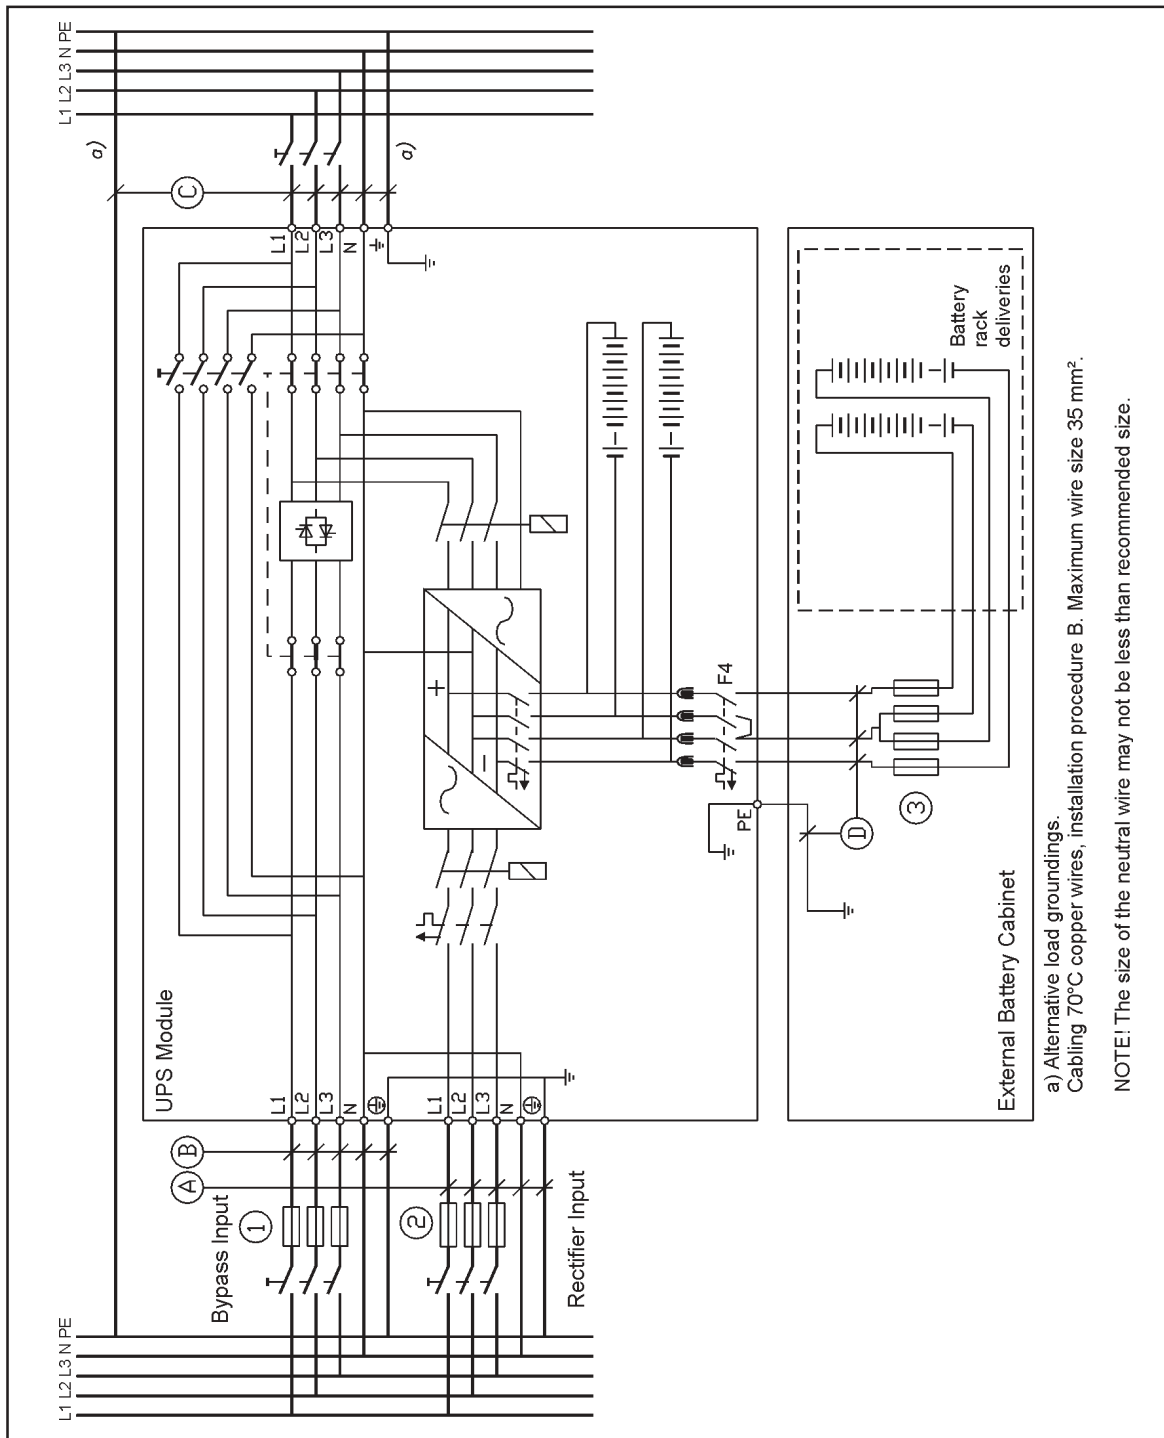
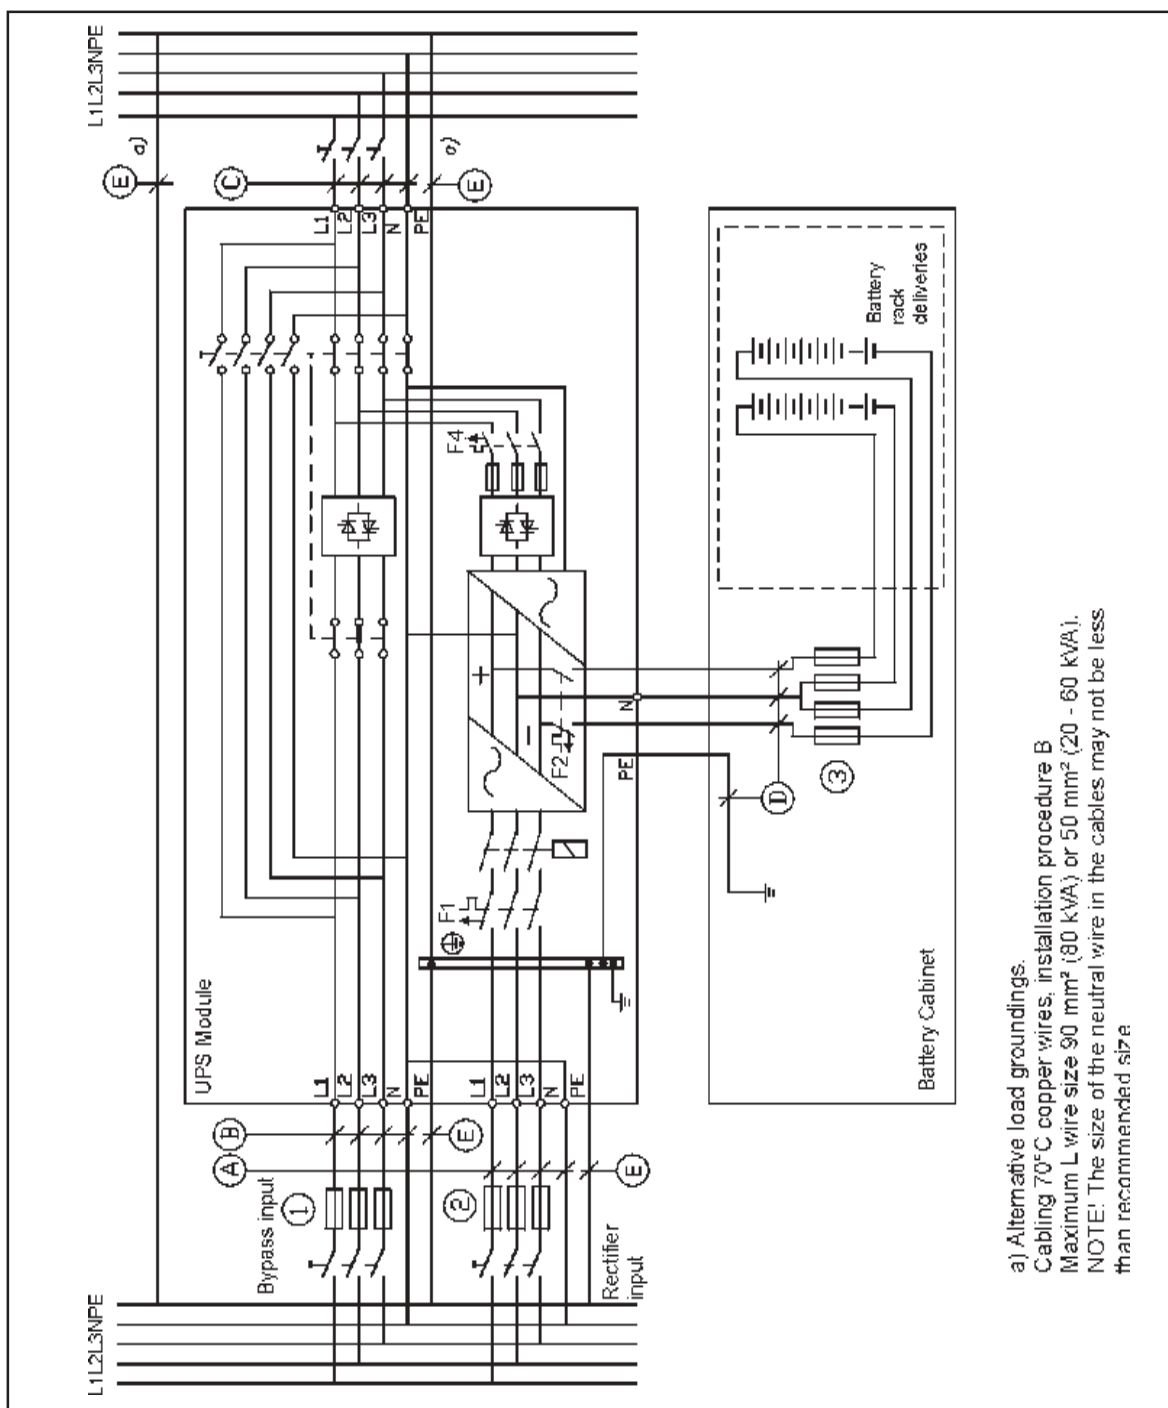

Figure 9. Five-wire installation of UPS units from 20 to 30 kVA with two-cable input.
Figure 10. Five-wire installation of UPS units from 40 to 80 kVA with two-cable input.
1. Check that electrical connections to the installation site have been properly executed. Also check fuse or circuit breaker ratings and cable dimensions against figure 9 for 20-30 kVA systems and figure 10 for 40-80 kVA systems.
5. The UPS should be connected in accordance with figures 9 - 10 according to the UPS power.
Table 3. Fuse and cable dimensions for five wire installations of UPS units from 20 to 30 kVA using two cable input. Note that the fuse numbers and the cable letters refer to the numbers/ letters in figure 9. Slow gG/gL fuses should be used to protect cables.
Table 4. Fuse and cable dimensions for five-wire installations of UPS units from 40 to 80 kVA using two cable input. Note that the fuse numbers and the cable letters refer to the numbers/ letters in figure 10. Slow gG/gL fuses should be used to protect cables.